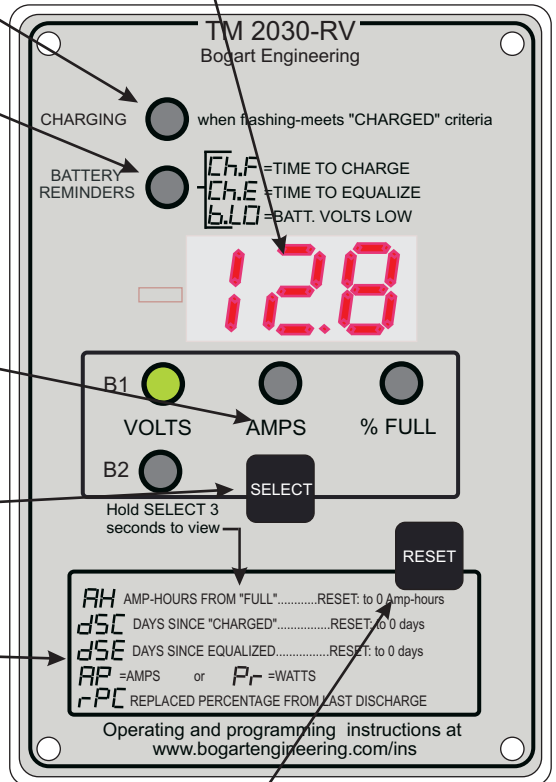

FIGURE 1
2. Basic instructions for Operating Level L1: Refer to figure 1 which covers basic operation. It also has references for further information. **Note that “% full” will display only 3 dashes until system is fully charged for the first time.**
dSE Days since the battery was equalized. “Equalization” refers to occasionally overcharging a battery to help it maintain its capacity. It is usually recommended only for liquid electrolyte lead acid batteries, not AGM or Gel types. This display is intended to remind you when to equalize your batteries if this is not done automatically by your charging system. It is essentially just a manual timer, that reads in DAYS, so that you can see how long it has been since your batteries were equalized. Each day when not reset will advance by 1.00 day. Then it must be MANUALLY RESET by you when you take action to equalize the batteries. For how to reset this, refer to Figure 1, in reference to the RESET button.
2.2.2. “Ch.E” (Charge Equalize) See the end of Section 7 for a discussion of equalization. This display will blink “Ch.E” as a reminder to equalize batteries, (typically monthly) should you choose to use it. Set the display interval in days, or turn this feature off by using program P6, see table 2. After you accomplish equalization you must manually reset the “Days since equalized” number to zero to stop the blinking. First: access the “dSE” display as described in figure 1. Then use the RESET button. After the equalization period elapses it will blink again